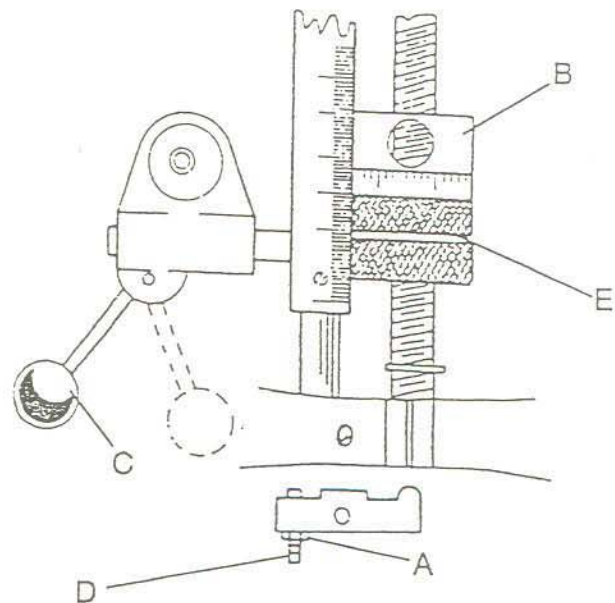

Fig. 9
1. Loosen locknut (A, Fig. 9).
2. Engage trip handle (C, Fig. 9) by pulling away from head assembly.
3. Adjust micro nuts (E, Fig. 9) against quill stop (B, Fig. 9)
4. Slowly turn adjusting screw (D, Fig. 9) until lever (C, Fig. 9) trips.
5. Tighten locknut (A, Fig. 9)